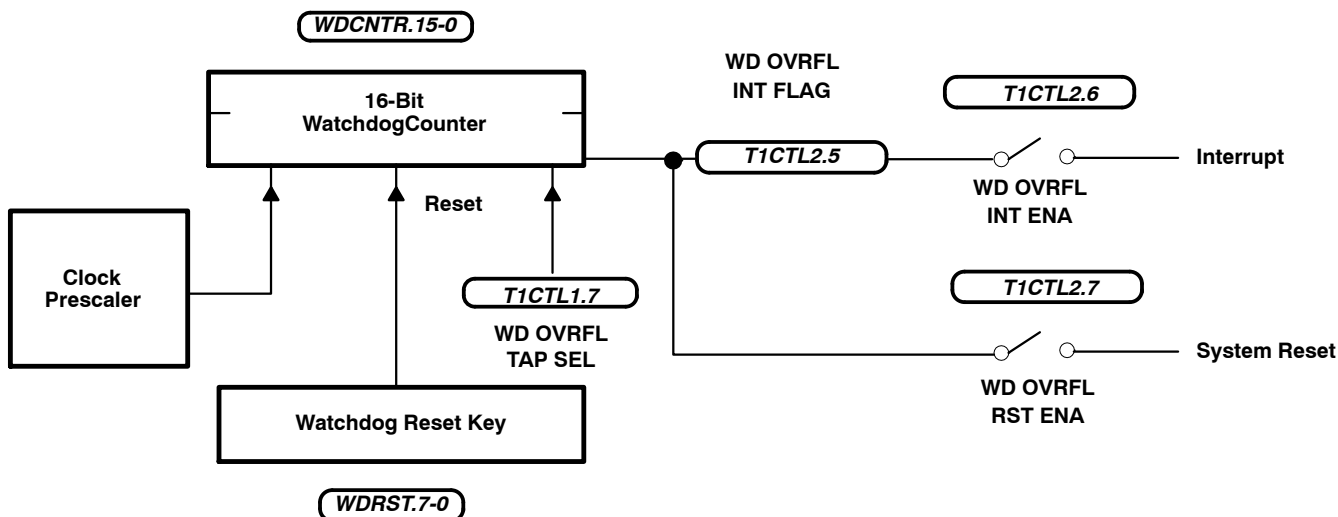

Figure 9. Standard watchdog
- Standard watchdog configuration (see Figure 9) – for EPROM and mask-ROM devices: